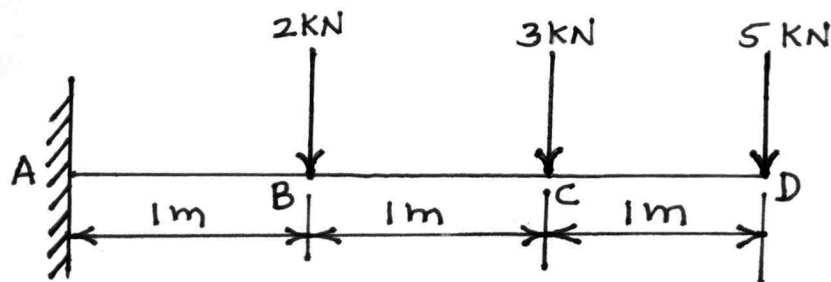

Figure No. 1.
- d) Draw S.F. and B.M. diagram for the cantilever as shown in Figure No. 1.